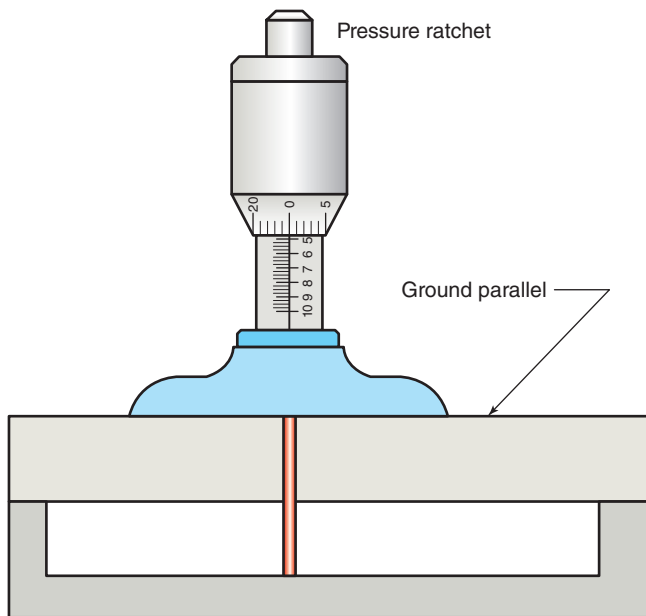

Figure 7-15 A ground parallel bar of known size can bridge larger gaps.
- If the width of the base is too narrow for the measurement, it's possible to bridge the gap with a ground parallel bar, as shown in Fig. 7-15. Remember to deduct the parallel thickness from the actual measurement!
- *Pressure Regulators* Depth mics may have a friction or ratchet pressure control device, which is good if more than one machinist is to share the tool (Fig. 7-15).